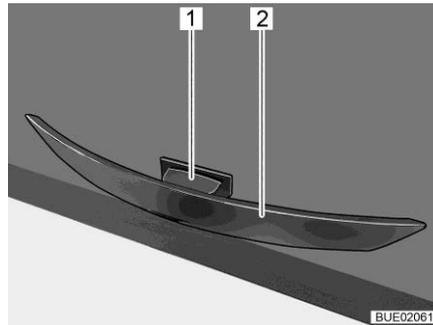

Fig. 43 Handle with release button
- Press the release button (Fig. 43,1) and hold it down.
- Pull the handle (Fig. 43,2) until the furniture flap is open.